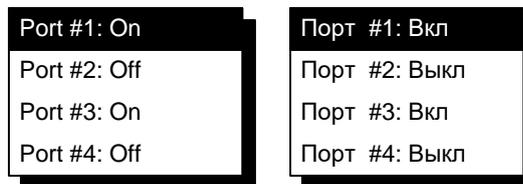

Figure 42 – Data reception from ports
– to select a port use “▼” and “▲” buttons in the drop-down menu, to switch on/off data reception from the port, press “ENTER”, see Figure 42.